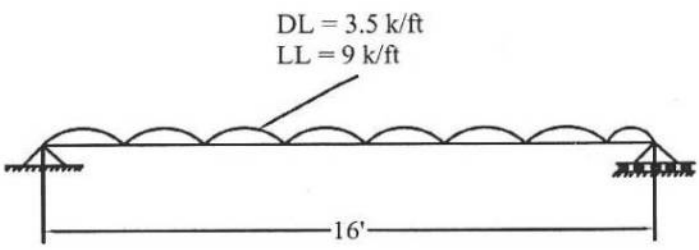

Fig 1
1. a) Write down the basic design concepts of USD and WSD methods of RCC design. (3)
- b) The following beam is subjected to a DL of 3.5 k/ft (including beam self wt.) and a LL of 9 k/ft over its entire span (Fig 1). Design the beam with $\rho = 0.0120$, $f_y = 60000$ psi and $f'_c = 4000$ psi. Also draw the final section with the reinforcement and dimensions. (7)